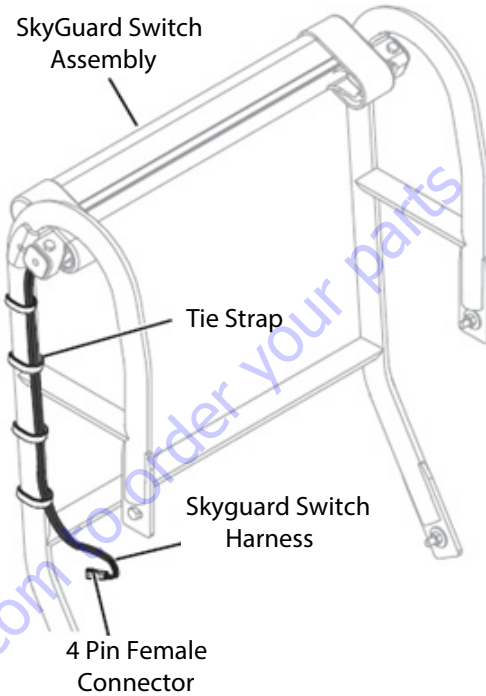

Figure 4-14.
9. Route the SkyGuard switch harness along SkyGuard support bracket (right side) and under the platform control box. Secure the harness using tie straps. See Figure 4-14.